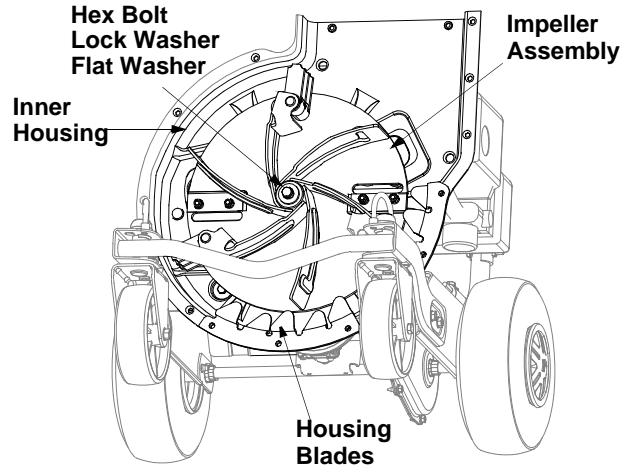

Figure 15
- Remove the hex bolt, lock washer, and flat washer that secures the impeller assembly to the crankshaft. See Figure 15.
- Place the housing blades against the inner housing. Refer to Figure 15.